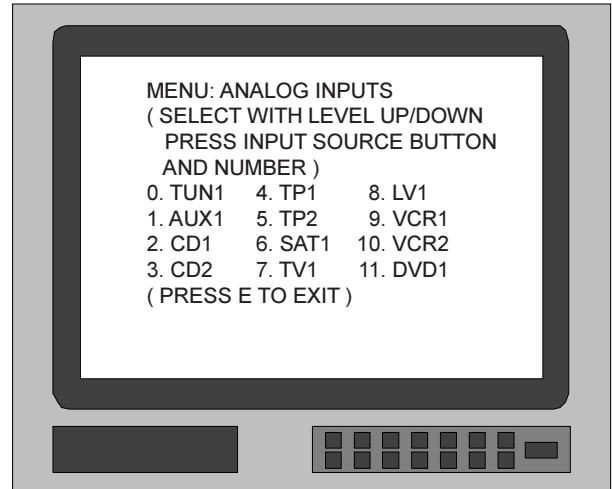

Figure 15
2. Press 4 on the Remote Control to enter the ANALOG INPUT MENU, which will appear on the Monitor/TV screen. Refer to Figure 15.